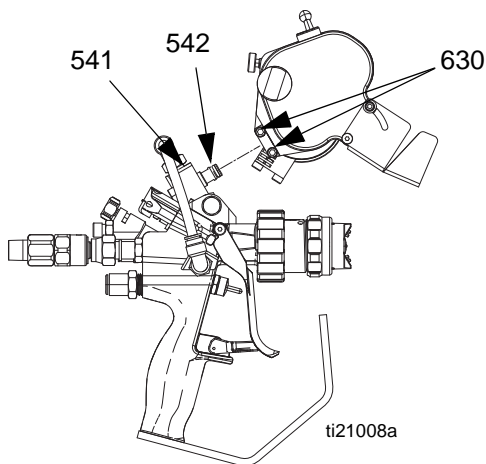

FIG. 6
- a. If necessary, use a crescent wrench to adjust pivot (541) so that it is parallel to gun front end and the open end points to the front of the gun. See FIG. 6.
- b. Back out screws (630). See FIG. 6.
NOTE: Ensure proper engagement of o-ring (542) into the cutter assembly. Verify there is no excess air leakage because it will greatly reduce the performance of the air motor. See FIG. 6.
- d. Tighten screws (630) to lock cutter in place.